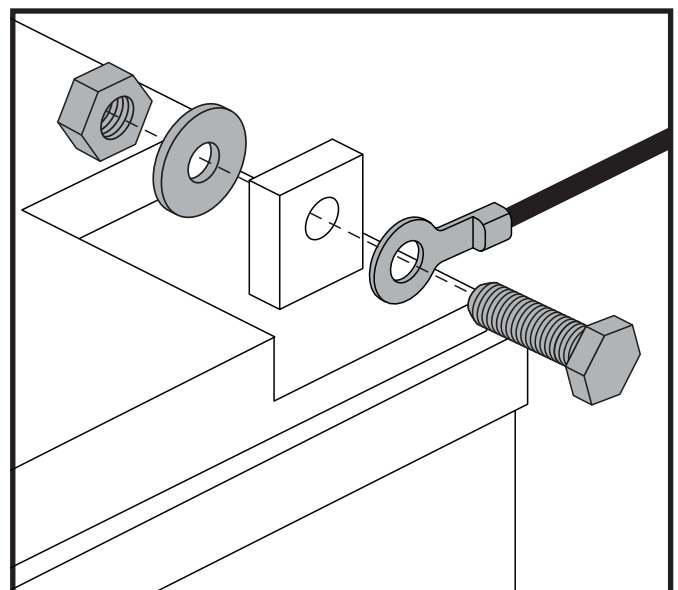

Figure 15. Battery Terminal Hardware
4. Disconnect the battery cables from the battery terminals by sliding back the terminal boots and unscrewing the nut from the bolt. See figure 15.